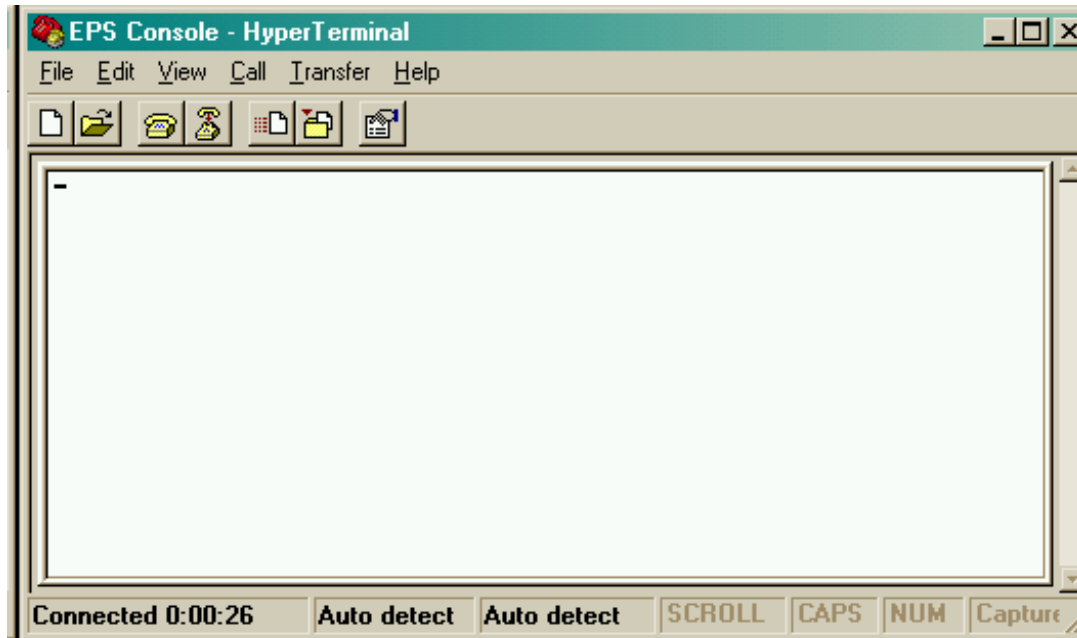

Figure 1. Initial *HyperTerminal* screen
- *HyperTerminal* should now be configured correctly. The main *HyperTerminal* screen will be showing, which will initially be mostly blank with a status bar across the bottom, as shown in **Figure 1**.